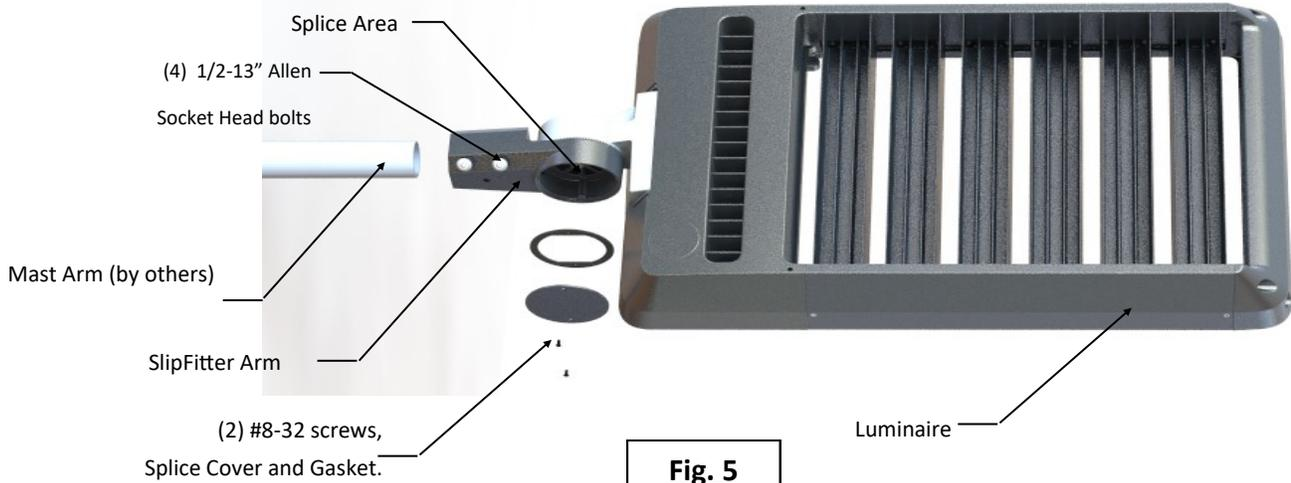

Fig. 5
To access wire splice area, remove (2) #8-32 Splice Cover screws, splice cover, and gasket. **Fig. 5**